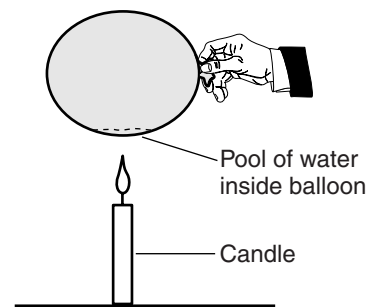

Figure 1.
4. Touch the lowest point of the water filled balloon to the flame. Make sure to touch the lowest point on the balloon to the flame because the water will collect in this region (see Figure 1). The balloon will not pop! (*The rubber will scorch and turn black, however.*)